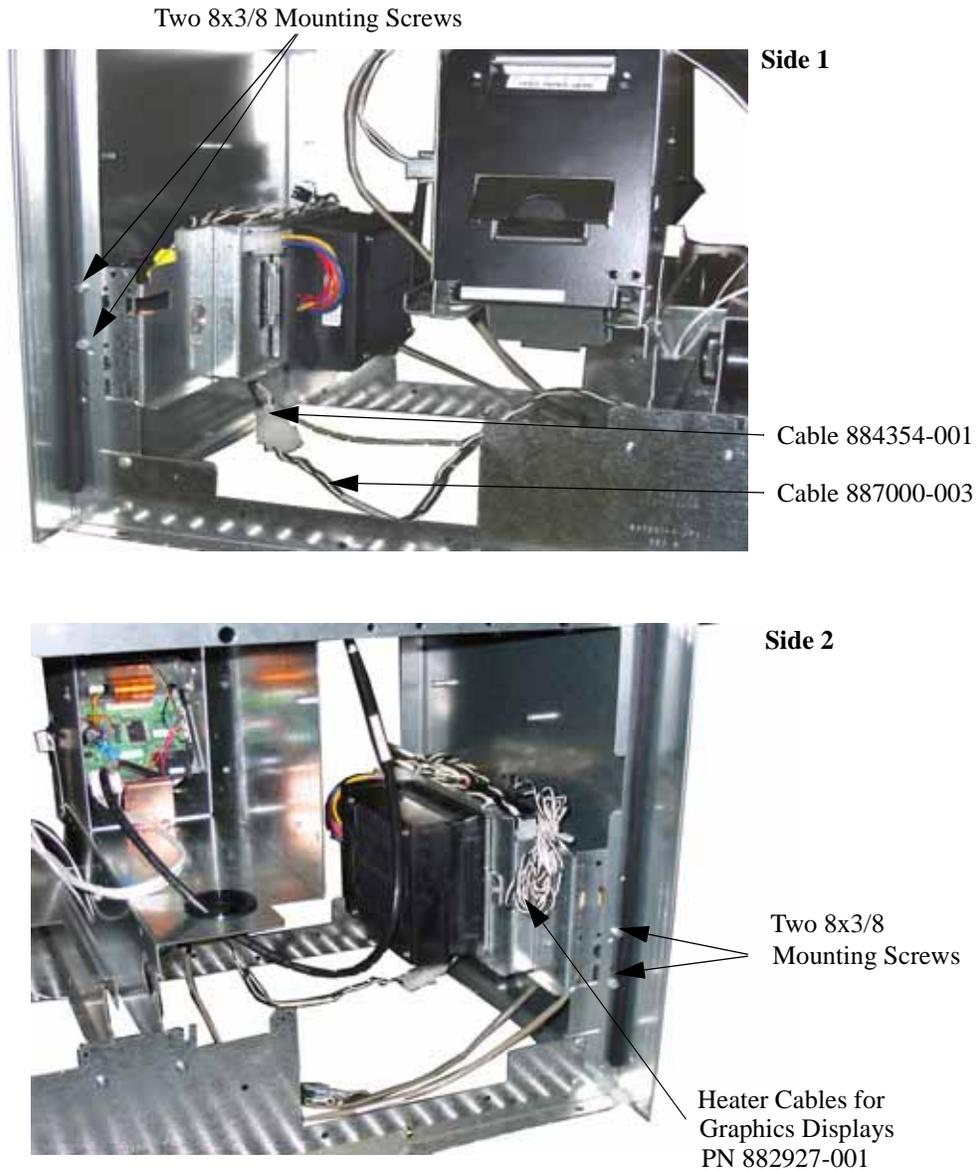

Figure 3-13 Dispenser Heater Installation
1. Mount the heater assembly into the dispenser against the left wall as you face side 1 and secure with four 8x3/8 screws . See Figure 3-13.